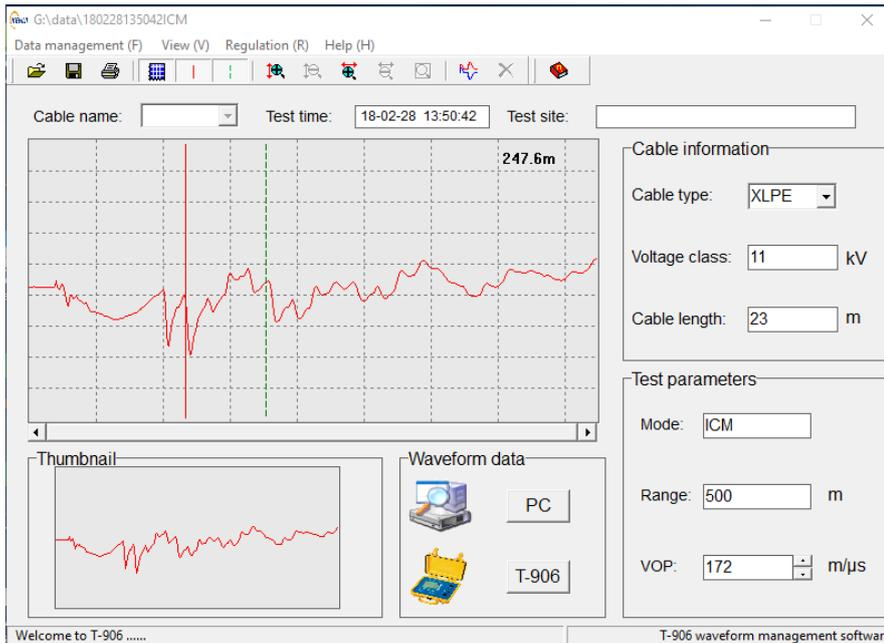

Figure 7.1 T-906
- *The resulting waveform is displayed as in figure 7.1.*